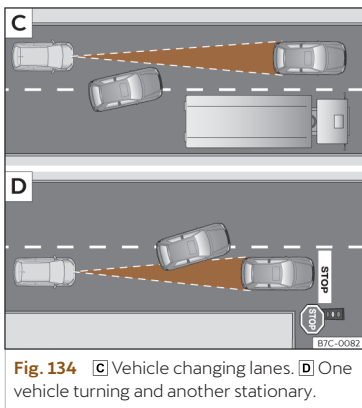

Fig. 134 [C] Vehicle changing lanes. [D] One vehicle turning and another stationary.
- Vehicles that move into your lane, a short distance from your vehicle >>> Fig. 134 [C].
The ACC may not react to stationary vehicles. If, for example, a vehicle detected by the ACC turns or moves over and there is a stationary vehicle in front of it, the ACC will not react to the second vehicle >>> Fig. 134 [D].